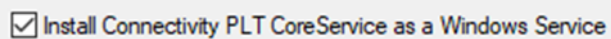

Figure 14. CoreService Windows Service Installation
- **CoreService System** – this should be installed in the system that is physically connected to the Connectivity PLT hardware. The service can be installed by enabling the Renesas Connectivity PLT Core Service windows service checkbox in the installation wizard Figure 14. Take note of the IP address of the system, it is needed for the configuration of the Connectivity PLT application.